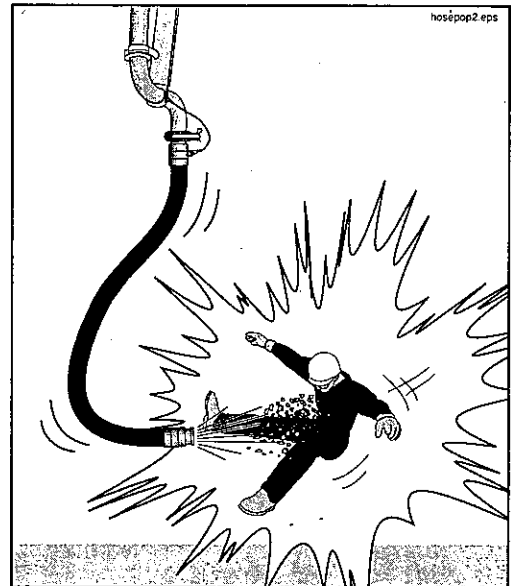

Figure 77
⚠ WARNING! When the operator is initially priming the delivery system, restarting after moving, restarting after adding or removing hoses, or any time that there is air in the delivery pipeline, you should stand away from the tip hose or point of discharge. Do not get near the discharge until concrete runs steadily and there is no movement of the material pipeline. The distance that you should stay back is fifty (50) feet (Figure 77). Compressed air in the line can cause rubber hose to move violently. If the operator tells you that air is coming, proceed as follows: